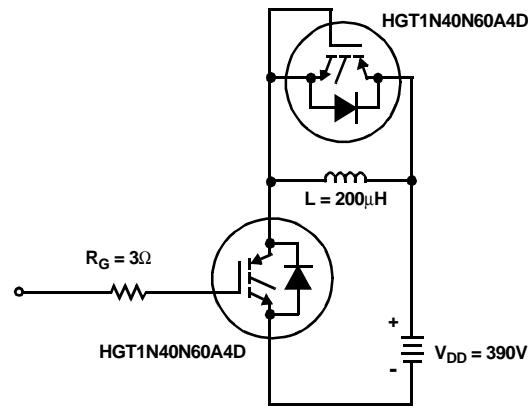

Figure 24. Inductive Switching Test Circuit
2. Values for two Turn-On loss conditions are shown for the convenience of the circuit designer. $E_{\text{ON}1}$ is the turn-on loss of the IGBT only. $E_{\text{ON}2}$ is the turn-on loss when a typical diode is used in the test circuit and the diode is at the same T_J as the IGBT. The diode type is specified in figure 24.